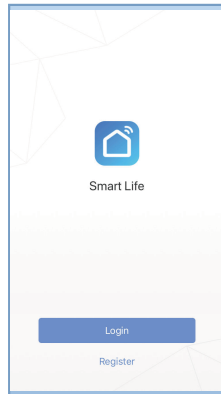

fig 2.2
- Press "register" button on the register page(fig2.2)